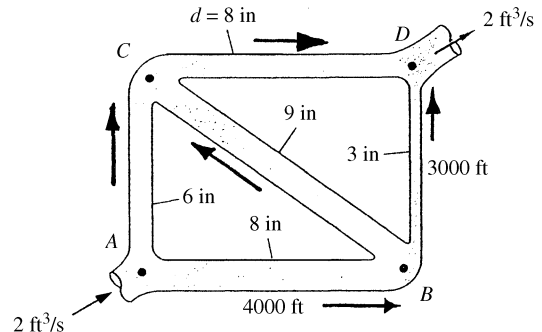

Fig. P6.127
6.127 In the five-pipe horizontal network of Fig. P6.127, assume that all pipes have a friction factor $f = 0.025$. For the given inlet and exit flow rate of $2 \text{ ft}^3/\text{s}$ of water at 20°C , determine the flow rate and direction in all pipes. If $p_A = 120 \text{ lbf/in}^2$ gage, determine the pressures at points B, C, and D.
There are two triangular closed loops, and the total head loss must be zero for each. Using the flow directions assumed on the figure P6.127 above, we have